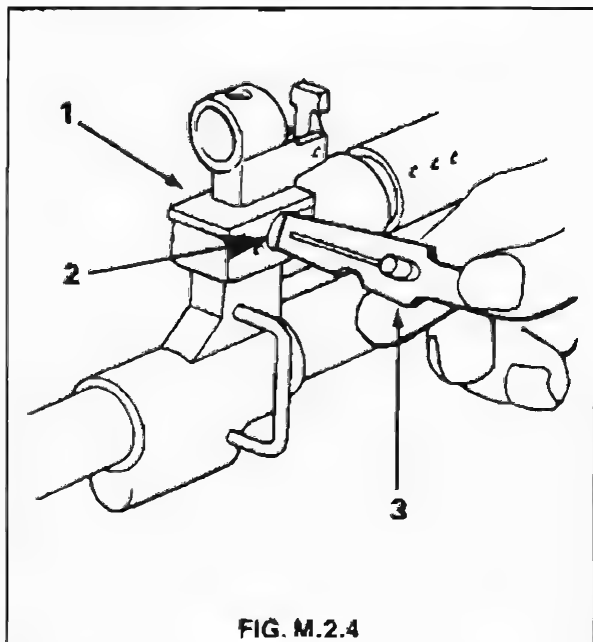

FIG. M.2.4
8. The front sight base, adjustable to the left or right, is altered when the MPI is to the left or right of the aiming point. If the MPI is to the left, the sight base must be moved to the left, and if to the right of the aiming point, adjust the sight base to the right. See Fig. M.2.4